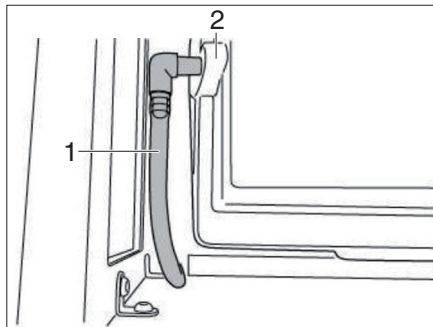
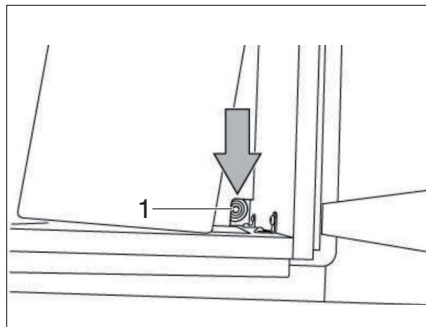

Fig. 138 Vent Pipe Attachment Location
Fig. 139 Pipe Vent Floor Hole
- ▶ Firmly attach the vent pipe (Fig. 138,1) to the battery (Fig. 138,2) and ensure that the pipe exits the vehicle in the hole (Fig. 139,1) provided in the bottom of the battery compartment.